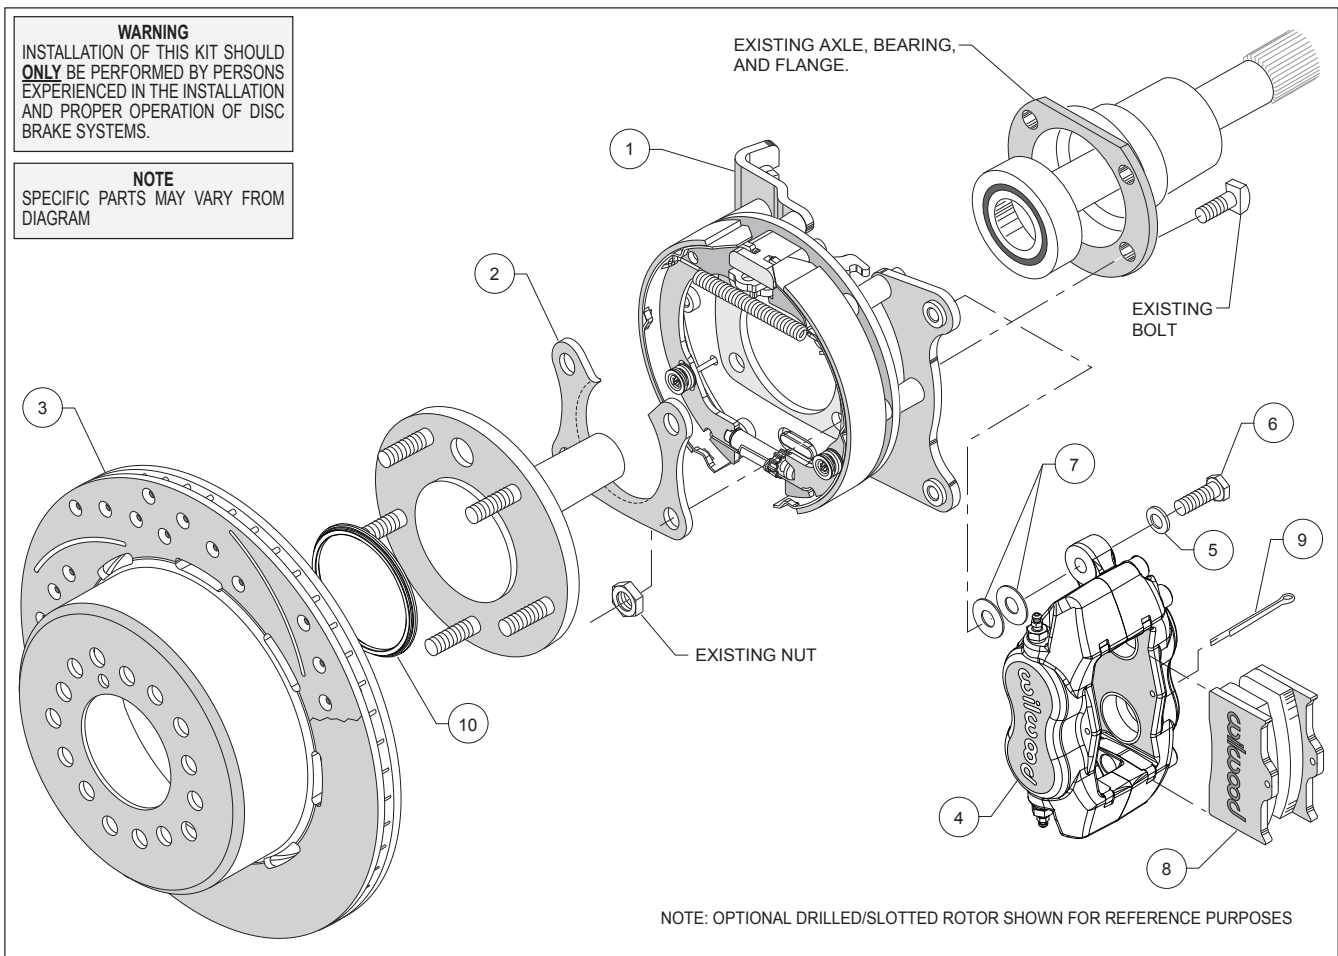
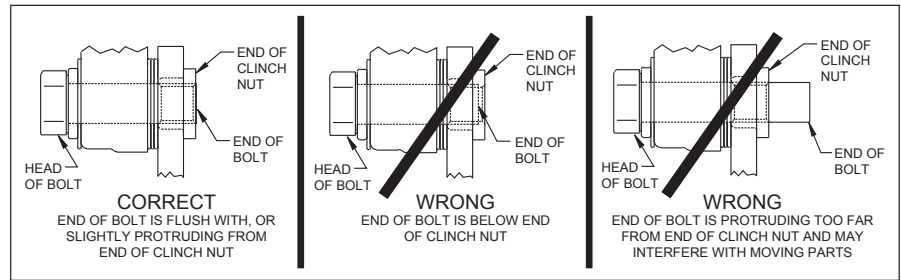

Figure 1. Typical Installation Configuration
Figure 5. Clinch Nut Engagement Diagram
Assembly Instructions (numbers in parenthesis refer to the parts list, and Figure 1 on the preceding pages): **CAUTION:** All mounting bolts must fully engage clinch nuts. Be sure to check that all bolts are either flush or protruding through flanged side of clinch nut after shimming, Figure 5.
• Orient the bracket assembly (1) as shown in Figure 1, and Photo 1, and slide it onto the axle. Insert the axle and bracket into the axle housing. Ensure that the bracket assembly backing plate fits flush against the axle housing flange.
• Install the bearing retainer (2) with the opening pointing upward and the lip facing inward (toward the bearing), as shown in Figures 1 and 4, and Photo 2. Secure retainer and bracket assembly to the axle housing flange using the Original Equipment Manufacturer (OEM) bolts and nuts, Figure 1. Apply red *Loctite*® 271 to the OEM bolt threads and torque to OEM specifications.
•Slide the rotor registration adapter (10) onto the axle register on the axle flange with the smaller O.D. facing toward the rotor/hat (3), Photo 3. Align the correct hole pattern in the rotor/hat with the stud pattern on the axle flange and slide into place, Figure 1 and Photo 4. **NOTE:** The rotor/hat must fit flush against the axle flange or excessive rotor run out may result. Install three lug nuts (finger tight) to keep the rotor/hat assembly in place while continuing with the installation. **NOTE:** Some OEM and after market axles come with stud sizes larger than 0.50" diameter. Verify stud size and have a qualified machine shop drill the bolt circle of the hat/rotor to the correct stud size, if necessary.
•**NOTE:** Please reference the caution statement at the beginning of the assembly instructions. Mount the caliper (4) onto the caliper mounting bracket (1) using bolts (6) and washers (5), as shown in Figure 1. Initially place two .035" thick shims (7) on each bolt between the caliper and the bracket, Photo 5. Temporarily tighten the mounting bolts and view the rotor (3) through the top opening of the caliper. The rotor should be centered in the caliper, Photo 6. If not, adjust by adding or subtracting shims between the bracket and the caliper. Always use the same amount of shims on each of the two mounting bolts. **NOTE:** The end of each bolt must be flush with or slightly protruding from the head of the clinch nut, as shown in Figure 5. If necessary place spare shims between washer (5) and caliper mounting ear to achieve the proper clinch nut engagement. Once the caliper alignment and clinch nut engagement are correct, remove the bolts one at a time, apply red *Loctite*® 271 to bolt threads, and torque to 40 ft-lb.